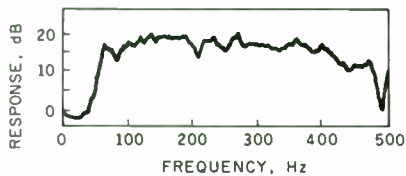

FIGURE 15: Response of the 50Hz horn against a wall.
Pull the horn away from the corner but still against a wall, and the sensitivity will go down 3dB. You can get good bass response with a wall position (*Fig. 15*), and in many situations a wall position may be the only solution. But the bass will sound deeper with a corner position. Try another variation: turn the horn on its side to see whether the response sounds better. A hand-held pink noise analyzer, such as the Audiosource RTA (*SB 4/86*), will help sort out the sensitivity levels.
**RESULTS.** As shown in *Fig. 15*, the response as measured against a wall is quite flat between 60 and 400Hz within  $\pm 3$ dB. Unfortunately I was not able to move our furniture away from the corners to make a corner measurement. But take my word, the response goes deeper in a corner. I measured the response with a Spectrum Dynamics FFT analyzer operating in an averaging mode with white noise input to the speaker. The absence